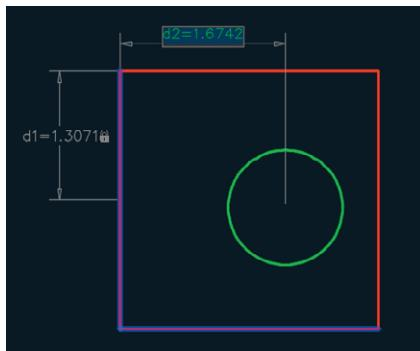

FIGURE 12.6 Creating a horizontal linear dimensional constraint
4. Click the Linear constraint tool in the Dimensional panel, and click the first constraint point in the upper-left corner of the rectangle. Click the circle to accept its center as the second constraint point. Move the cursor upward, and click to place the horizontal dimension line above the rectangle (see Figure 12.6). Move on to step 5 without pressing Enter.